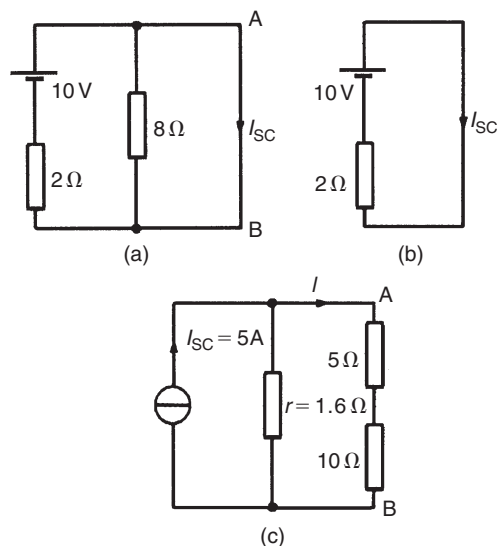

Figure 13.55
- (i) The branch containing the 10Ω resistance is short-circuited as shown in Fig. 13.55(a)
- (ii) Fig. 13.55(b) is equivalent to Fig. 13.55(a).
- (iii) If the 10 V source of e.m.f. is removed from Fig. 13.55(a) the resistance 'looking-in' at a break made between A and B is given by:
- (iv) From the Norton equivalent network shown in Fig. 13.55(c) the current in the 10Ω resistance, by current division, is given by: